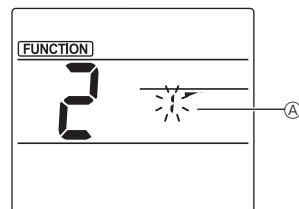

Fig. 2
- ② Selecting the vane number (Fig. 2)